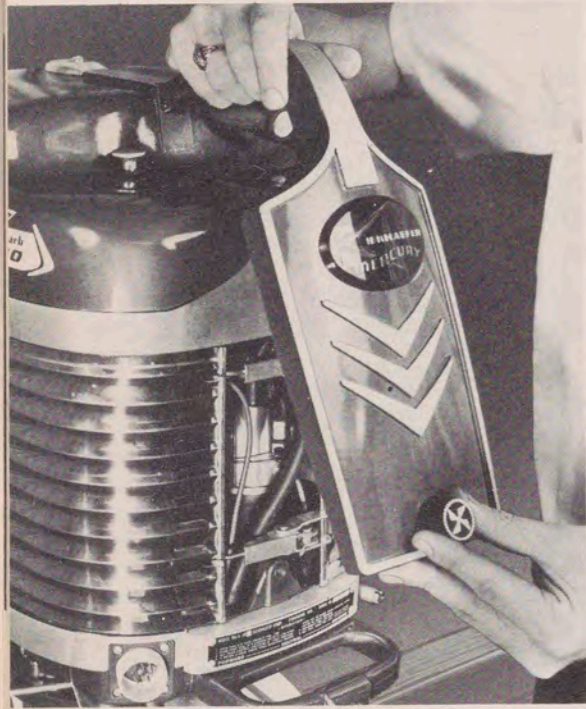

Figure 13
4-1. SHIFTING GEARS. Gear positions for shifter lever are indicated by words "FORWARD," "NEUTRAL" and "REVERSE" on instruction plate and on remote control plate, if remote controls are used. (See Figure 13.) The indicator on the remote throttle control is marked with "SLOW" and "FAST" positions. Inter-lock mechanism between throttle control and shift control permits shifting gears only while in the "SLOW" range. This is a safety feature designed to prevent shifting gears while engine is running too fast. Don't force the shift lever. With shift lever in "REVERSE" or "NEUTRAL" position, reverse lock lever, actuated by a cam on the shift lever shaft, locks motor in normal operating position. This prevents the lower unit from tilting outward, away from the transom, when reverse thrust is applied.
1. Remove front cover plate by loosening the knurled knob on the bottom of the plate and lifting up until the hinge disengages at the pivot point. (See Figure 13.)